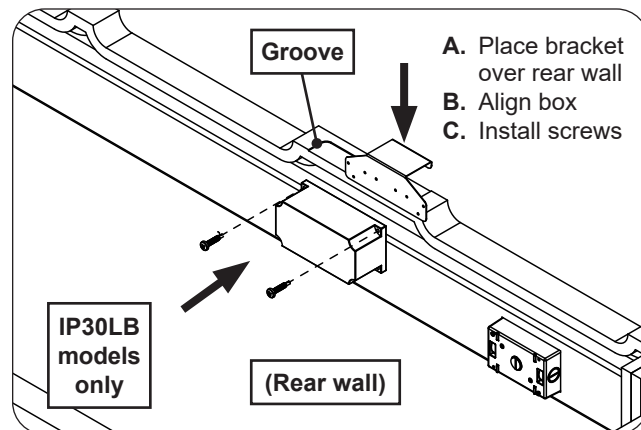

Fig. 10-1 Install power supply box (if applicable)
1. **First** place the power supply box bracket over the rear wall, in the groove just to the left of the outlet box (see Fig. 10-1).
2. Align the pilot holes on the power supply box with the holes on the bracket, then insert the two Phillips screws and tighten with the power drill and #2 Phillips driver (see Fig. 10-1). **DO NOT OVERTIGHTEN.**